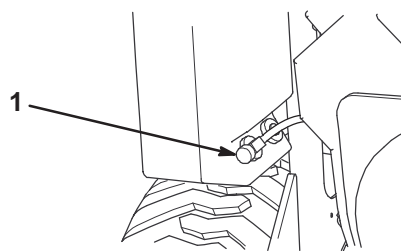

Figure 31
2. Shut off the fuel valve on the bottom of each fuel tank (Fig. 31).
3. Shut off the fuel valve on the bottom of the fuel tank (Fig. 31).